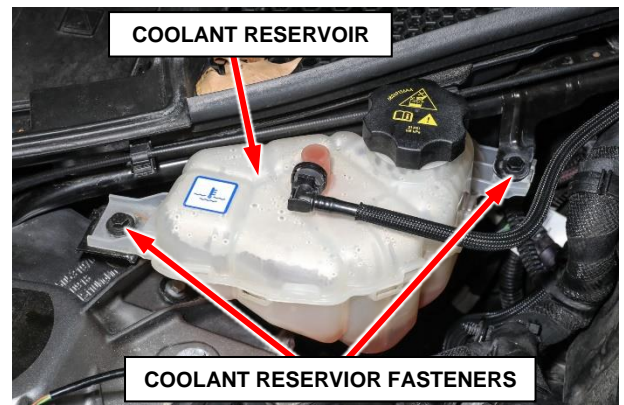

Figure 8 – Coolant Reservoir
- Remove the coolant reservoir fasteners (Figure 8).
21. Position the coolant reservoir and tighten the fasteners securely (Figure 8).